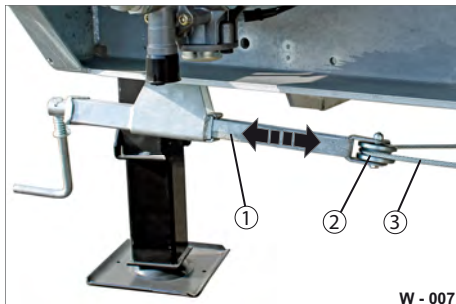

Fig. 7 Lubricating the screw parking brake
- ▶ Check the stroke linkage (Fig. 7/1), guide pulley (Fig. 7/2) and transfer cable (Fig. 7/3) for damage/deformation/cracks.
- ▶ Grease the guide pulley (Fig. 7/2).